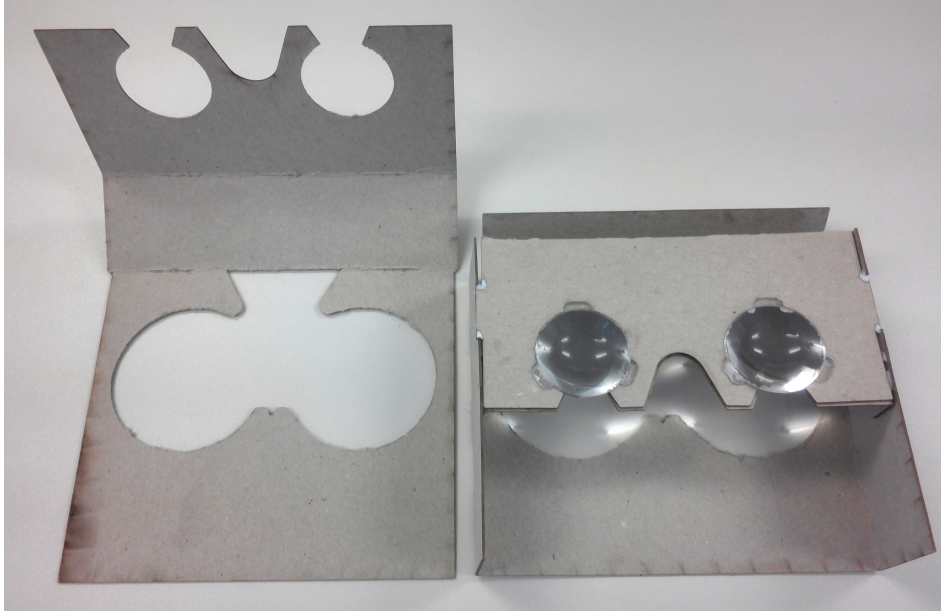
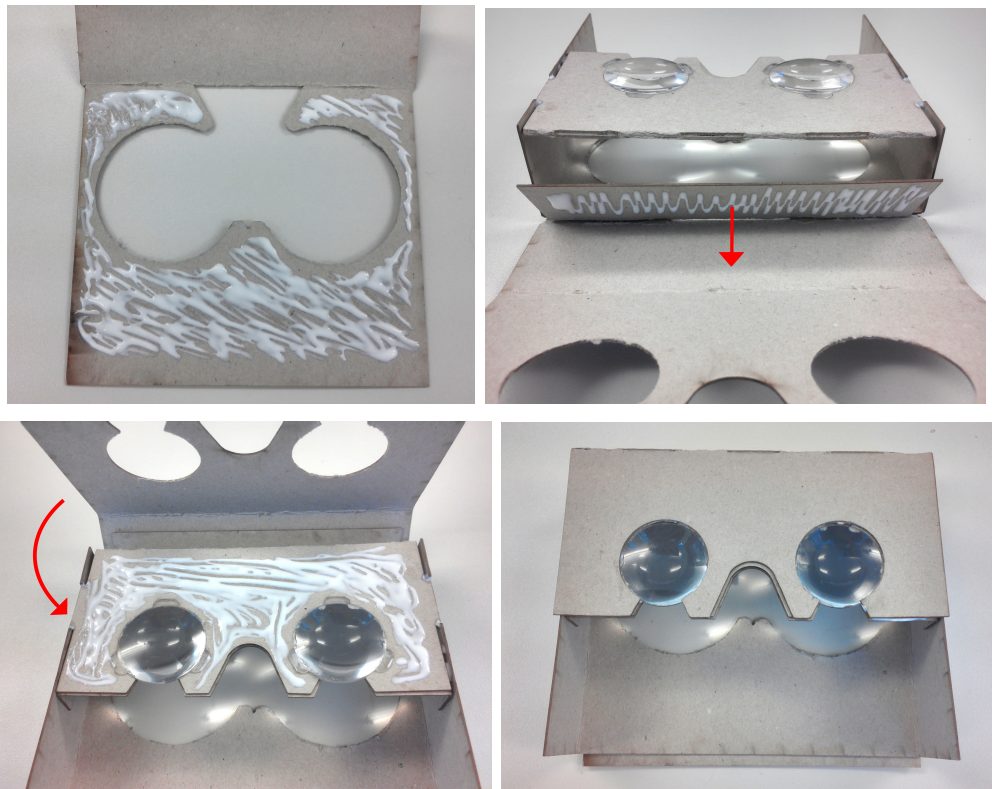

Figure 1.0.13: Left part D, right part A in combination with part C
Figure 1.0.14: Positioning and Glueing of the A/C combination on part D
5. Now the result generated in step 4 is combined with part D (see figure 1.0.13). To do this, place the combination of A and C on the part D and glue them together. Then glue the top side of both parts together and place the side with the round aperture of part D on the side with the lenses of the A/C combination. The process is shown in figure 1.0.14.